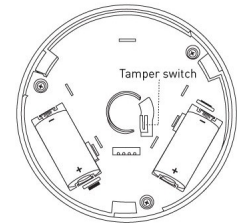

Figure 4
5. Enroll the Glass Break Detector by pressing and holding the tamper switch for 2 seconds (see *Figure 4*).
WARNING! The polarity of the battery must be observed, as shown (See *Figure 4*). Improper handling of lithium batteries may result in heat generation, explosion or fire, which may lead to personal injuries. Replace only with the same or equivalent type of battery as recommended by the manufacturer. (see *Specifications*)